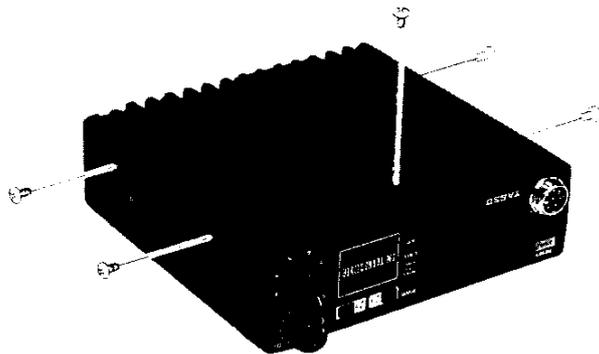

Figure 1
- 1) Disconnect the power cable from the transceiver, and remove the five screws affixing the bottom cover (see Figure 1). Remove the cover.